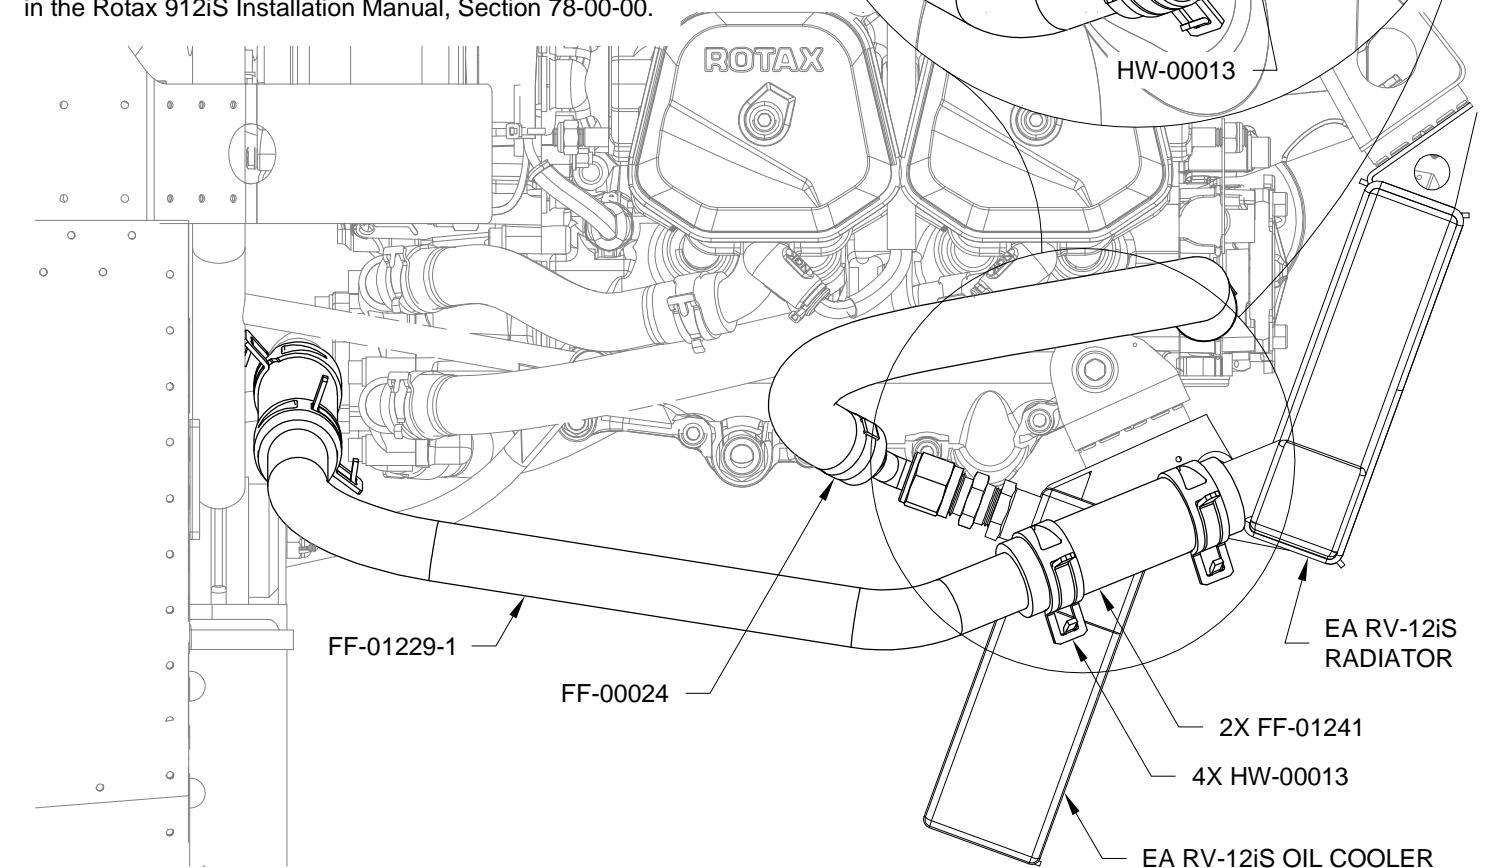

FIGURE 3: RADIATOR & OIL HOSES - RIGHT SIDE
Step 6: Attach the FF-01229-1 to the engine with a FF-01241 as shown in Figure 3.
Step 7: Attach the FF-01229-1 to the EA RV-12iS RADIATOR with a FF-01241 as shown in Figure 3.
Step 8: Attach the FF-00024 to the EA RV-12iS OIL COOLER as shown in Figure 3.
Step 9: Check the clearance between the EA LV-1 Heat Shield installed on the EX-00021-1 and the forward HW-00013 as shown in the detail view in Figure 3, then adjust the clocking of the upper segment of the EX-00021-1 as necessary to ensure the clearance shown while maintaining a minimum of 1 in. [25.4 mm] engagement in both EX-00021-1 slip joints.
Step 5: Use a razor blade to cut a slit in the woven sheath from the lower end of the hose up to the marked line as shown in Figure 3. Keep the scrap metal between the hose and the razor blade in order to protect the hose.